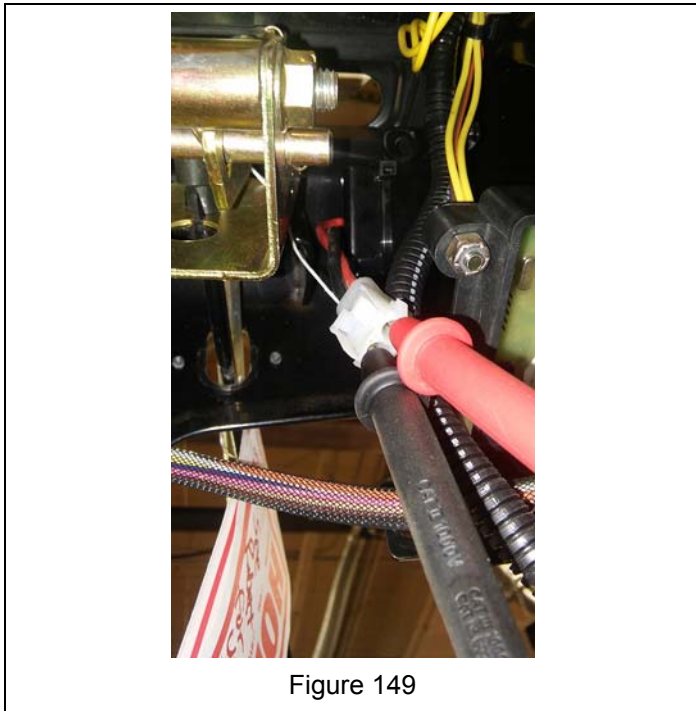

Figure 149
- a. Check the battery. With the engine off, the battery voltage should be 7.2 V dc – 8.4 V dc. See Figure 149.
If DC output is higher than 8.4 V dc, replace ECU. See Figure 149.